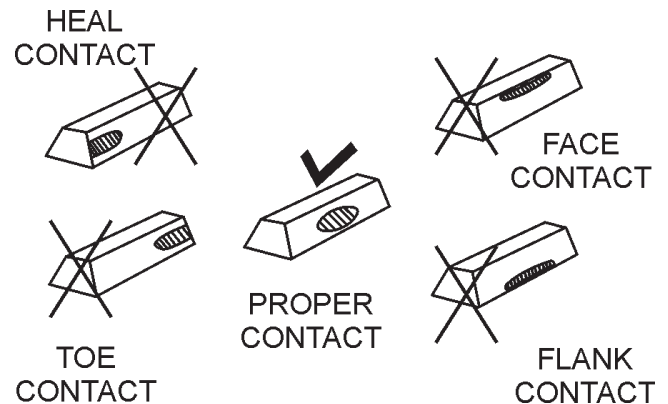

Figure 31. Gear Teeth Alignment
- If gear teeth are not contacting properly (Figure 31), adjust pillow block to correct the problem.